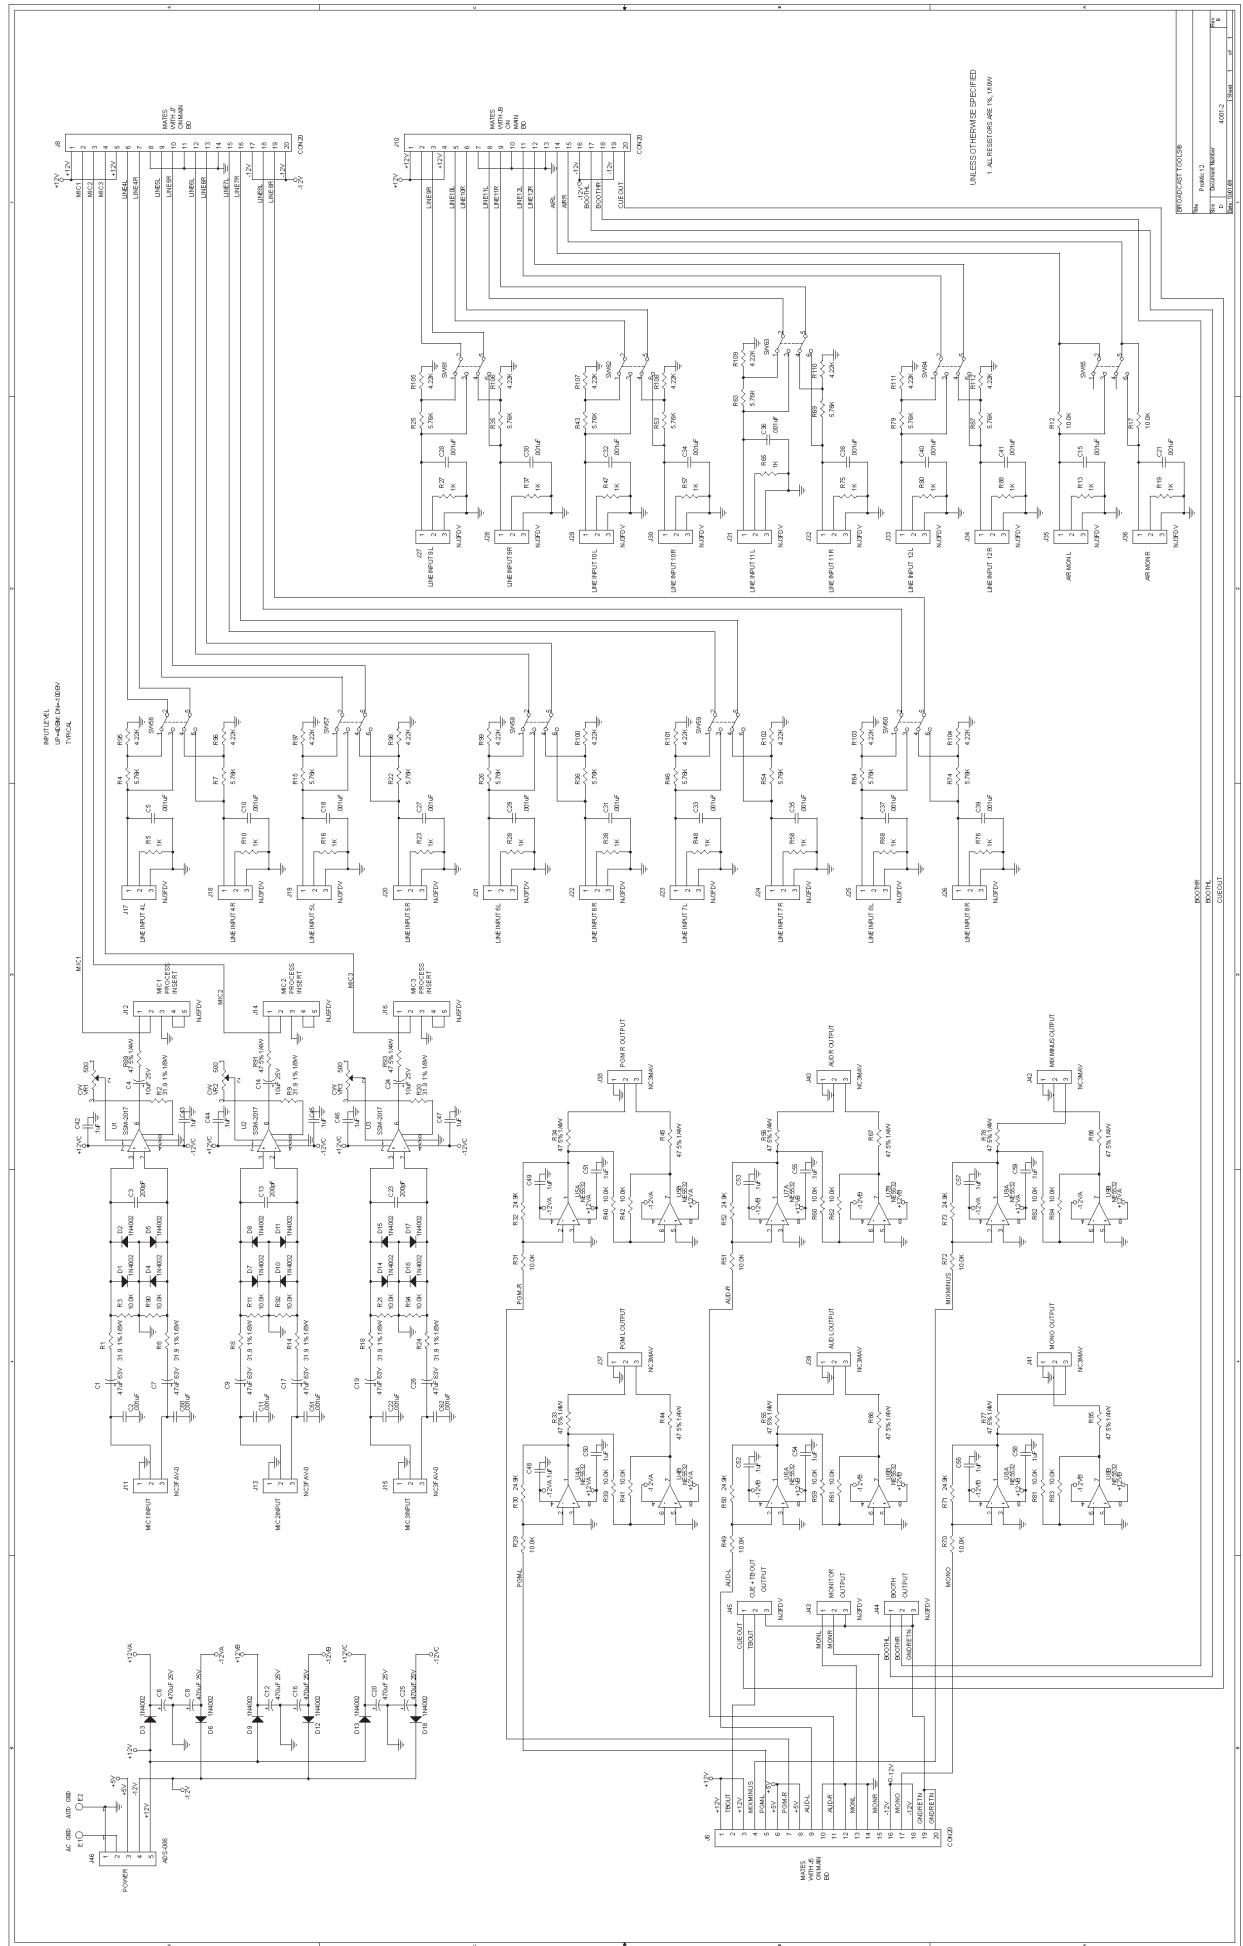

FIGURE 2
The console includes a Talkback system that permits the console operator to speak to an announcer who is wearing headphones connected to the Booth output. When the TALKBACK button is pressed, the "normal" audio being fed to the Booth output is interrupted and is overridden by audio from the Talkback circuit. Because Mic 1 is normally used as the "console operator mic", Mic 1 is used to talk back to the Booth announcer. Another audio source can be substituted for Mic 1 (e.g., an intercom output) if necessary. See Figure 2 (Section 2.2.1). The jumper between pin 12 and pin 8 should be removed. External Talkback audio can be fed into pin 8. This input is unbalanced; the nominal input level should be about -10dBm .
The console includes a full-duplex Talkback system that allows the console operator to converse with the booth announcer, off-air. (To use the system in duplex mode, an external amplified speaker must be connected to the TB OUTPUT as described in Section 2.9.) If the TALKBACK button (20) is pressed and held down, the “normal” audio feeding the Booth output is overridden with audio from Mic 1 (the console operator’s mic). The booth announcer can respond by pressing the remote TALKBACK button (connected per Figure 2; see Section 2.2.1.) The console operator via the Talkback speaker will hear the announcer’s mic. (One-way operation is possible without using the Talkback speaker. The console operator can still speak to the announcer, however the announcer cannot reply.)